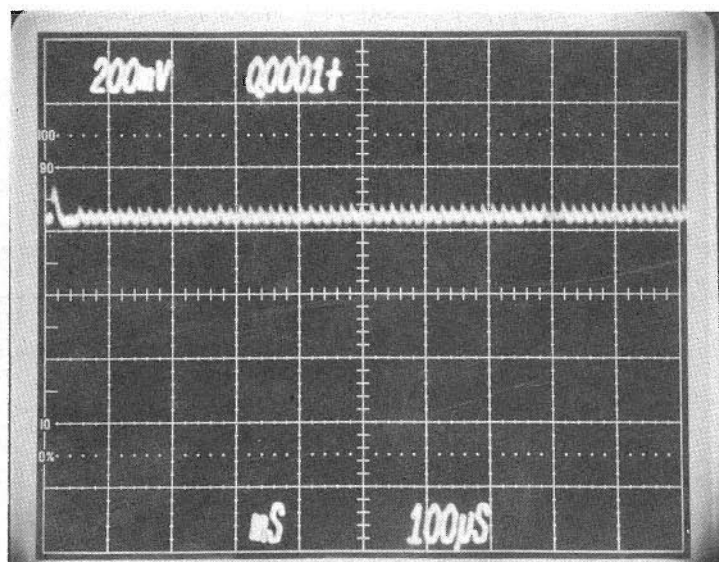
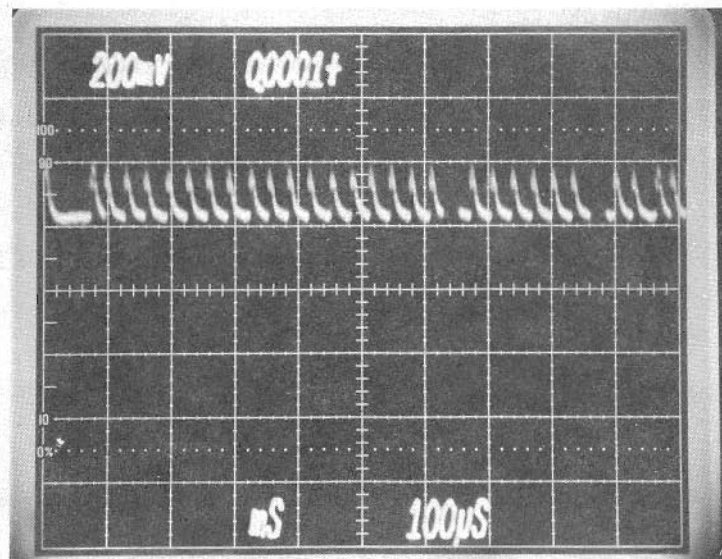
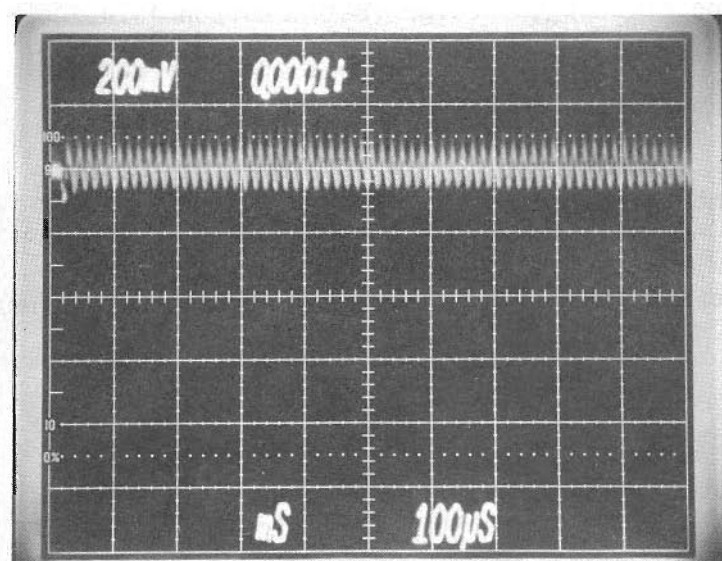

FIGURE 11-2E R8 ADJUSTED PROPERLY
FIGURE 11-2F R8 SET TOO FAR COUNTERCLOCKWISE
FIGURE 11-2G R8 SET TOO FAR CLOCKWISE
- Trigger Mode: Normal (DC)
15. If the Operating System will not completely load, fine tune R8 to obtain a waveform similar to FIGURE 11-2E (located in the R8 adjustment section following). Repeat steps 12 and 13 as needed. FIGURES 11-2F and 11-2G (also located in the R8 adjustment section following) show typical waveforms when R8 is turned too far counterclockwise (FIGURE 11-2F) or too far clockwise (FIGURE 11-2G).
25. Adjust R8 to obtain a wave form similar to FIGURE 11-2E. Adjust R8 until noise on the waveform is slight, as in FIGURE 11-2E. FIGURES 11-2F and 11-2G show typical wave forms when R8 is turned too far counterclockwise (FIGURE 11-2F) or too far clockwise (FIGURE 11-2G). (It may be possible to adjust R8 such that a waveform that has less noise than the one shown in FIGURE 11-2E is obtained. However, errors may occur at this setting, because the adjustment of the loop will be too close to the "noise limit"--the point where the clean waveform begins to break up).
If R8 is adjusted properly, FIGURE 11-2E will be observed, and the "periods" (.) from the verify program in step 22 will be displayed at a constant rate of speed. If R8 is turned in either direction (CW or CCW) until a verify ERROR occurs, either FIGURE 11-2F or 11-2G will be observed (dependent on direction). Watching the rate at which the "periods" (or the "ERRORS") are being displayed may help in setting R8 correctly. Again, it may be helpful to purposefully create errors (by turning R8 to its extremes) in order to see what the waveform (noise) looks like when R8 is maladjusted.